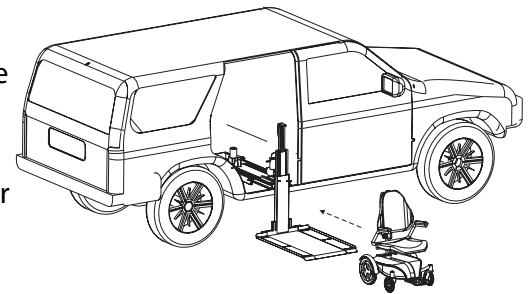

Figure 4-1
- 2. Drive Chair/Scooter onto Platform.** Drive the chair or scooter onto the platform so that the heaviest portion is closest to the lifting tower (this is usually under the drive wheels, motor(s) and battery locations). Most often this method requires the chair or scooter to be loaded in reverse, and unloaded driving forward. Set your chair or scooter's speed control to slow speed to maneuver easily onto the platform. [Figure 4-1]